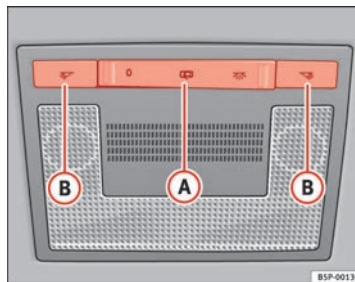

Fig. 80 Interior roof trim:
Press the corresponding button ⇒ fig. 79 (B) and ⇒ fig. 80 (B) to switch on the reading light.